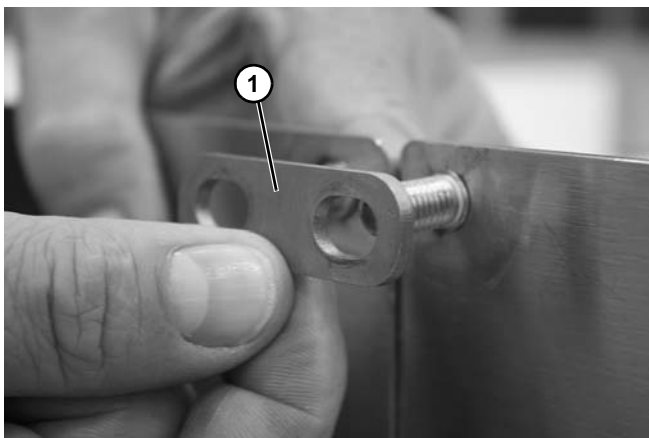

Figure 35
4. Install the connecting plate (Figure 35, item 1) over the studs.